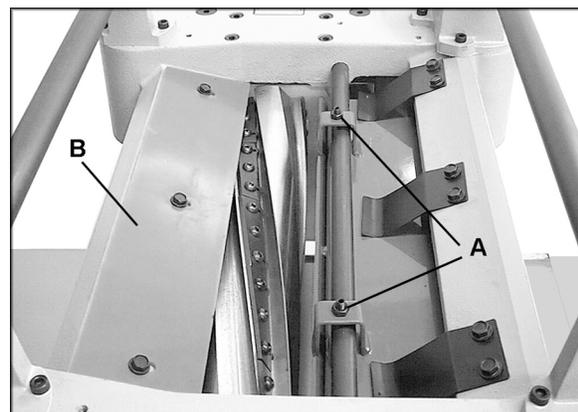

Figure 28
2. Remove the dust hood and the top cover. Remove the chip deflector (Figure 28 shows the chip deflector). Remove the belt guard so you can rotate the cutterhead using the pulley.
2. Loosen the lock nuts (A, Figure 28) at both ends of the chipbreaker, and turn the set screws to raise or lower the chipbreaker as needed. The set screws should be turned the same amount.
3. When the chipbreaker contacts the gauge block, tighten both lock nuts (A, Figure 28).
The chip deflector (B, Fig. 28) keeps wood chips from falling into the outfeed roller. The deflector should be set approximately 1/16" to 1/8" from